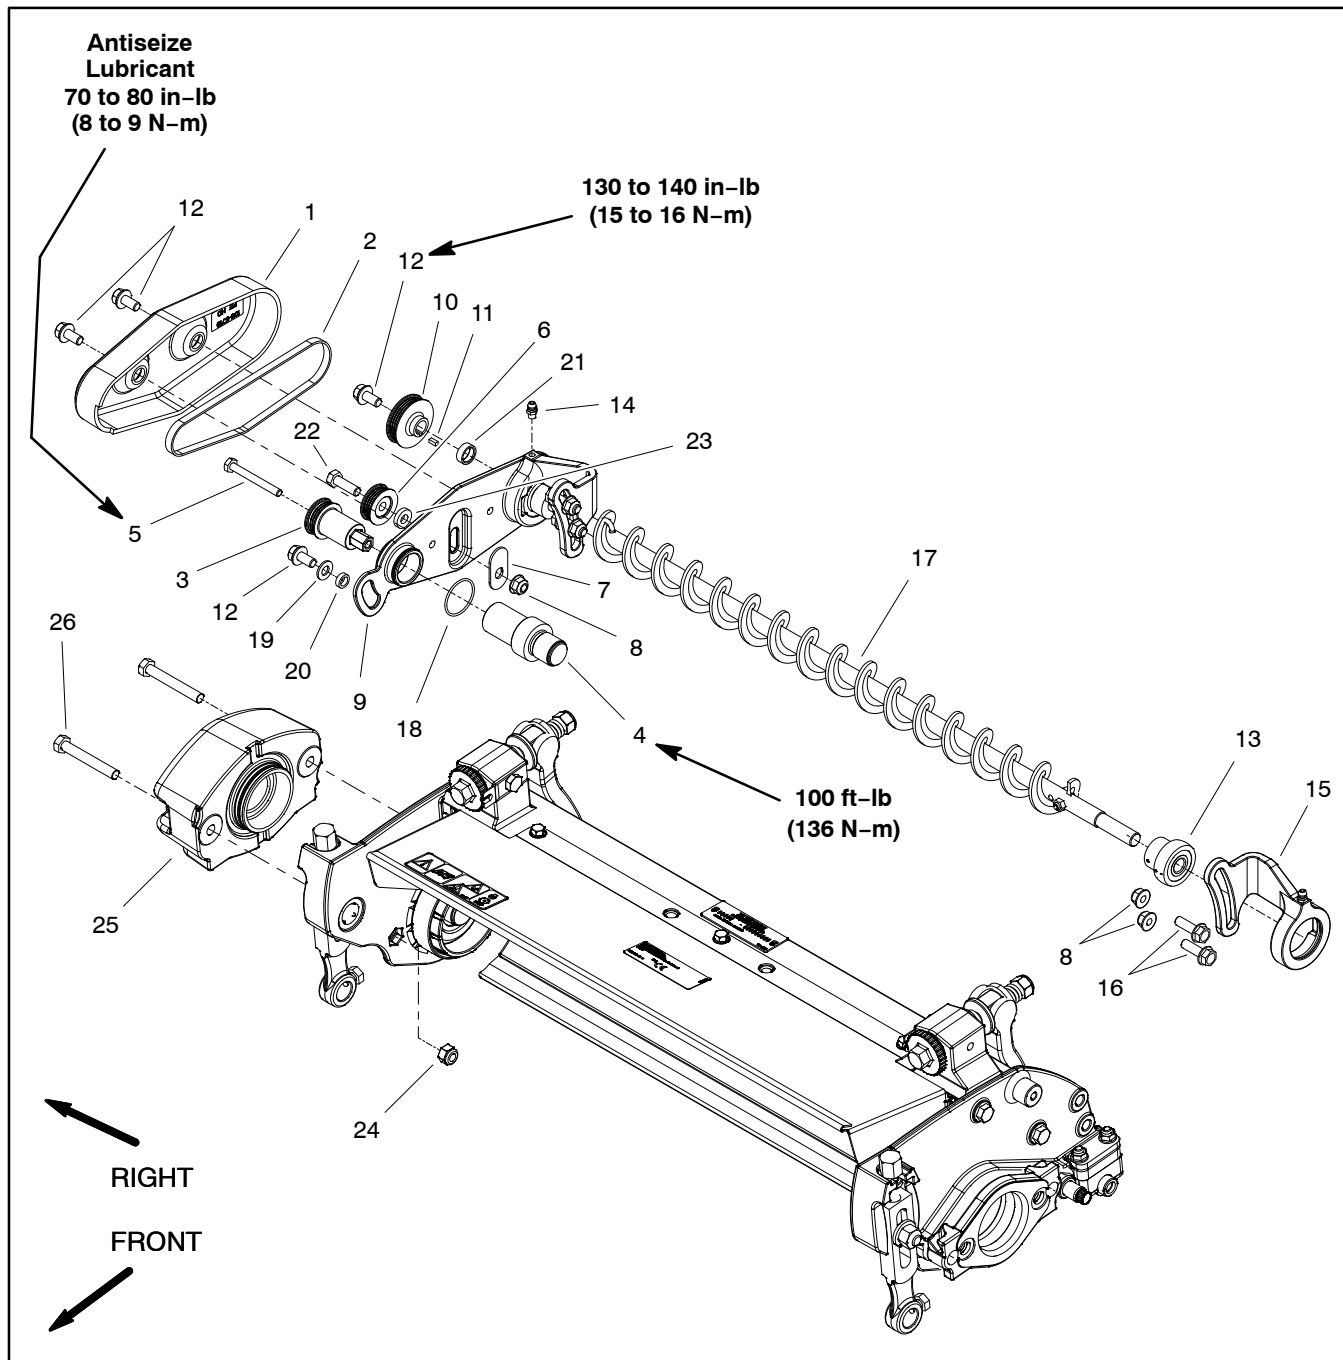

Figure 41
Disassembly (Fig. 41)
3. To remove roller brush drive belt (item 2):
- A. Loosen cap screw (item 22) and flange nut (item 8) that secure idler pulley assembly (item 6) to drive plate.
4. Disassemble roller brush components as necessary using Figure 41 as a guide.
Assembly (Fig. 41)
2. Assemble roller brush components using Figure 41 as a guide and the following assembly notes:
A. The screws (item 12) that are used to secure the cover (item 1), driven pulley (item 10) and drive plate (item 9) have a threadlock feature to prevent the screws from loosening. If original screws are being re-used during assembly, apply Loctite #242 (or equivalent) to threads of screws.
B. Apply a light coating of grease to O-ring (item 18) before installing on drive plate flange. Make sure that O-ring is correctly positioned in groove in flange.
C. Apply antiseize lubricant to threads of cap screw (item 5) that retains drive pulley (item 3). Torque cap screw from **70 to 80 in-lb (8 to 9 N-m)** to secure drive pulley to pulley driver.
D. Secure driven pulley (item 10) to brush shaft with threadlock screw (item 12). Torque screw from **130 to 140 in-lb (15 to 16 N-m)**.
E. Secure pulley driver (item 4) to cutting reel shaft with **100 ft-lb (136 N-m)** torque.